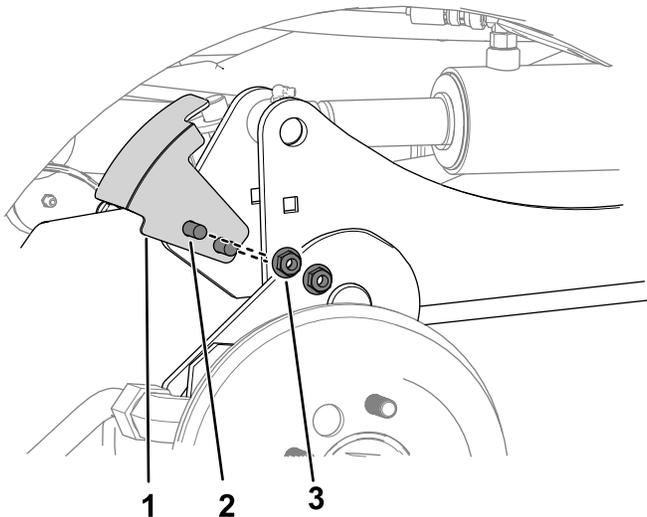

Figure 7
5. Use 2 carriage bolts and 2 nuts (3/8 inch) to secure the sensor bracket to the right lift arm (Figure 7).